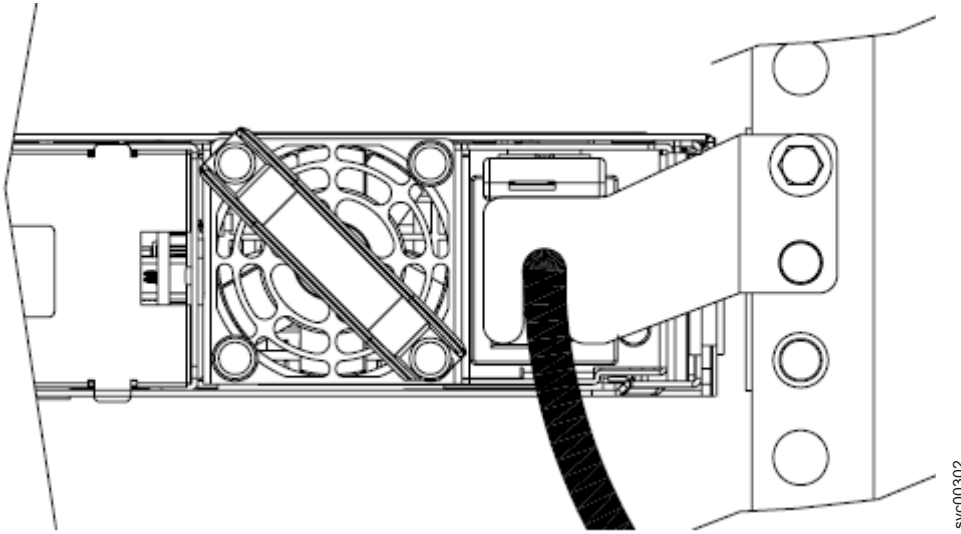

Figure 35. The SAN Volume Controller 2145-8G4 with cable-retention bracket type B attached
2. At the back of the cabinet, remove the securing bolt from the node side rail next to the power supply, as shown in Figure 35 on page 40.